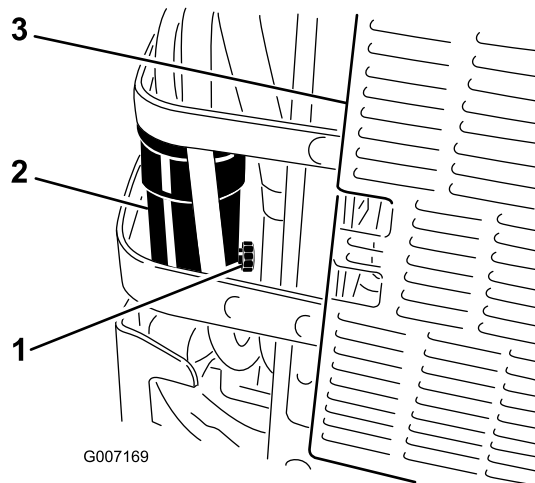

Figure 43
6. Open the drain valve on the water separator approximately one turn to allow water and other contaminants to drain (Figure 43).
7. Close the drain valve when only diesel fuel comes out (Figure 43).